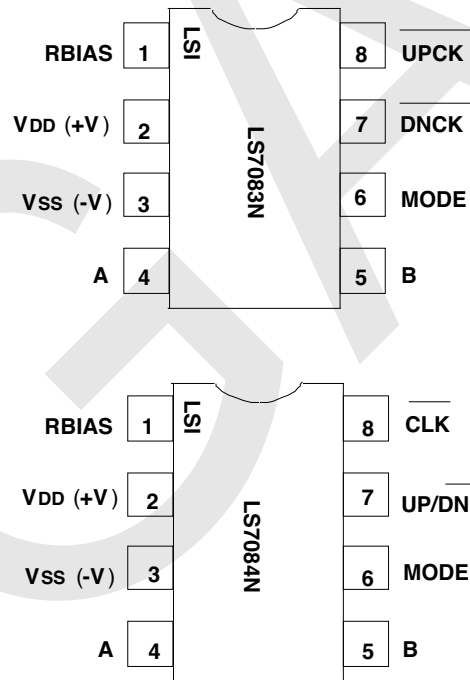

FIGURE 1
- **LS7083NS, LS7084NS** (SOIC) - See Figure 1